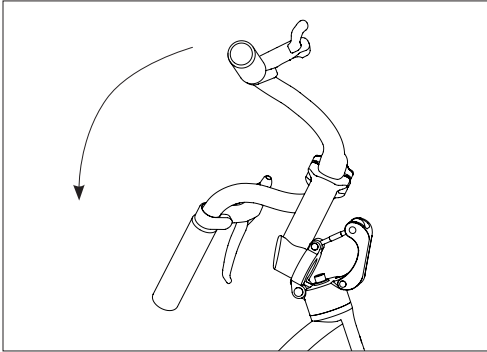
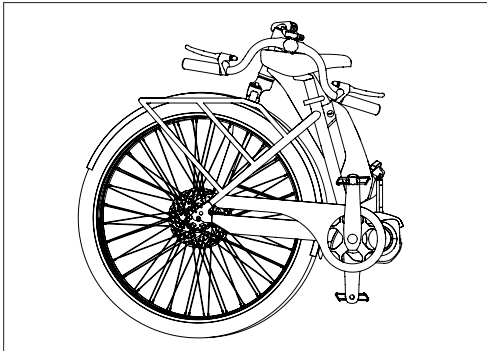

Fig. 36: Fold down the handlebars.
Fig. 37: Folded bike.
10. Pivot the handlebars to the down position. (Fig 36, page 37). The saddle should be nestled in the middle of the handlebars (Fig. 37, page 37)